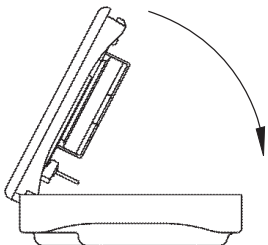

Figure 4
8.3 Install the cover with PCB on the base (See Figure 4). The sensory terminals (5) should fall into the hole (8).